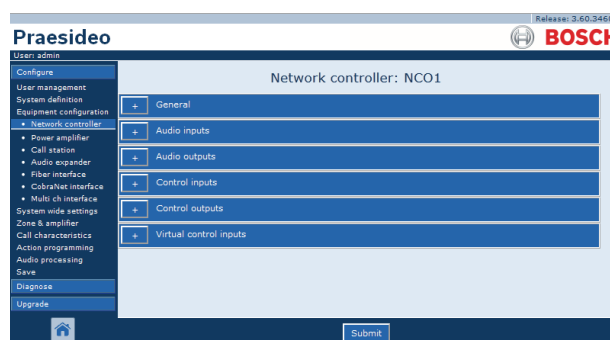

figure 44.3: Configure network controller, step 2
- 2 Click the name of the network controller that must be configured. A screen similar the one in figure 44.3 appears in the main frame of the web interface.